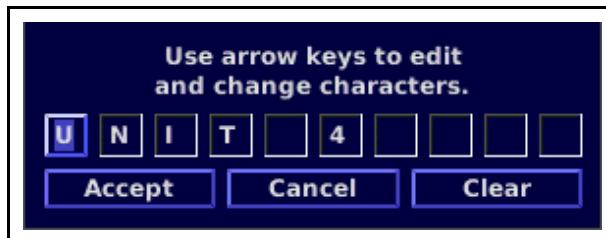

Figure 5-3 Unit Name Dialog Box
- **Display Unit Name:** This selection is used to display the name of the CMN-41L unit. The displayed information changes, depending on the name entered into the Unit Name dialog box. See **Figure 5-3** on page 124.